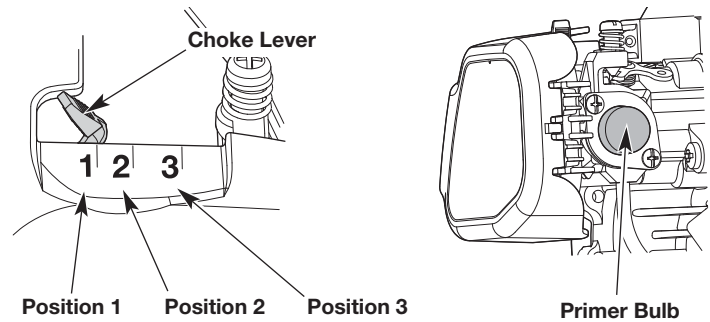

Fig. 7
3. Slowly press and release the primer bulb **10 times** (Fig. 7). If fuel cannot be seen in the primer bulb, press and release the primer bulb until fuel is visible.
4. Move the choke lever to **Position 1** (Fig. 7).
7. Continue to press the throttle lockout and squeeze the throttle control. Move the choke lever to **Position 2** (Fig. 7).
10. Continue to press the throttle lockout and squeeze the throttle control. Move the choke lever to **Position 3** (Fig. 7) and continue warming the engine for an additional 60 seconds. The unit may be used during this time.
IF... the engine hesitates, return the choke lever to **Position 2** (Fig. 7) and continue the warm-up.